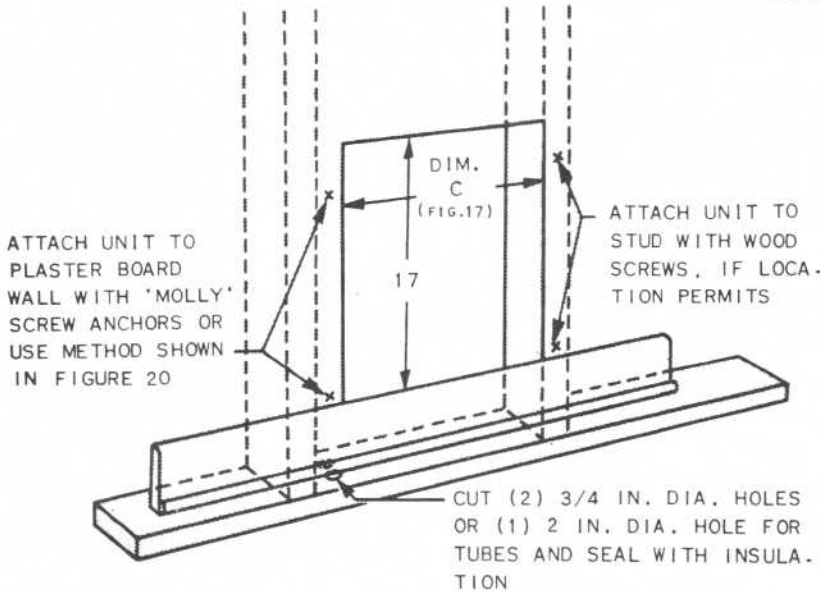

Figure 19 - Details for Mounting Unit in Wall on Old Construction
- b. **OLD CONSTRUCTION** - Framed walls with lath and plaster or dry wall should be sounded in order to locate the stud nearest the desired unit location. An opening should then be made in the wall on the left hand side of the stud in order to determine its exact location. The unit opening should then be marked on the wall, using the left side of the stud for the right hand side of the unit opening. The dimensions for these openings are shown in Figure 19. Since the cabinet of an H-18 unit is slightly wider than the distance between studs located on 16" centers, the left hand stud will have to be notched about 1/2" when making an opening for an H-18 unit.